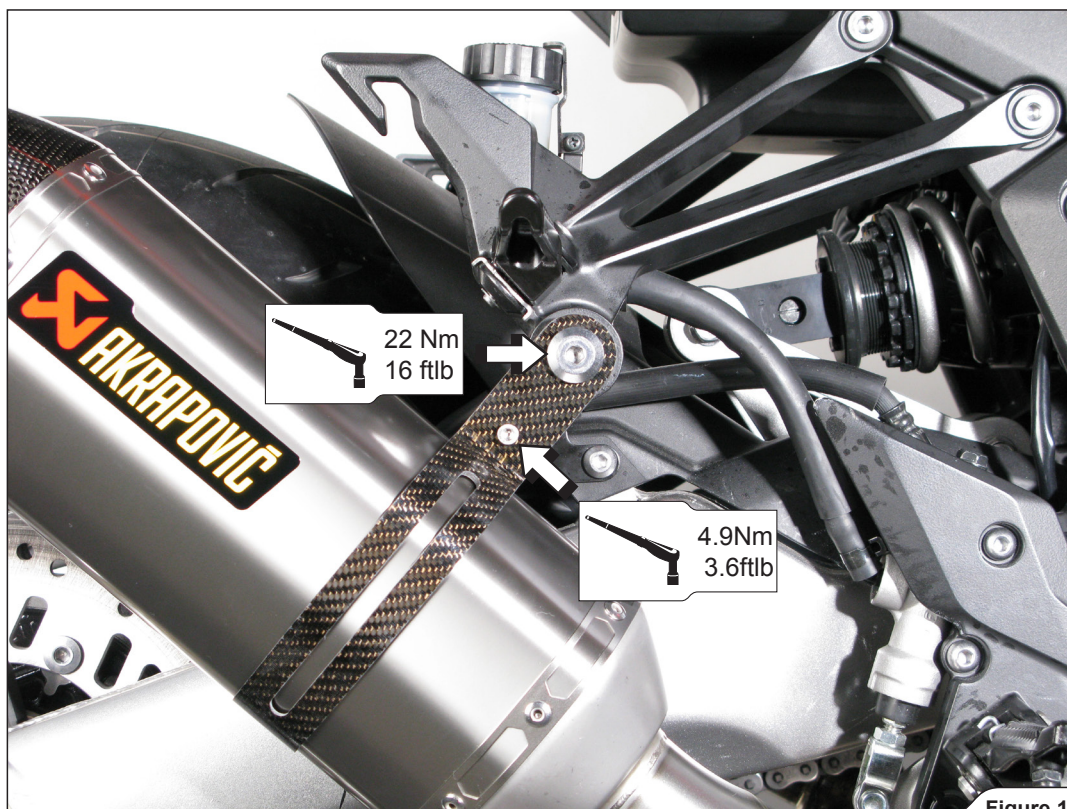

Figure 10
3. **For Slip-On only:** slide the muffler pipes all the way into the stock collector outlets, align the mufflers in respect to the motorcycle and tighten the muffler clamps to the bracket, using stock bolts, washers and nuts (**Figure 10**).